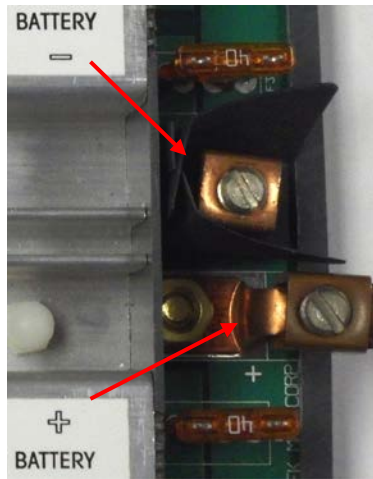

Figure 1
**Step 1. Verifying incoming voltage and ground to the control box.** The slide-out control main power connector needs +13 DC Volts and a good ground to operate correctly. **This requires the engine to be running.** Using a multi-meter check for +13 DC Volts at the main connection between the Battery (-) lug and the Battery (+) lug. **If no power or ground or less than +13 DC Volts are measured between the pins, contact the OEM for the power and ground sources.** See Figure 1.